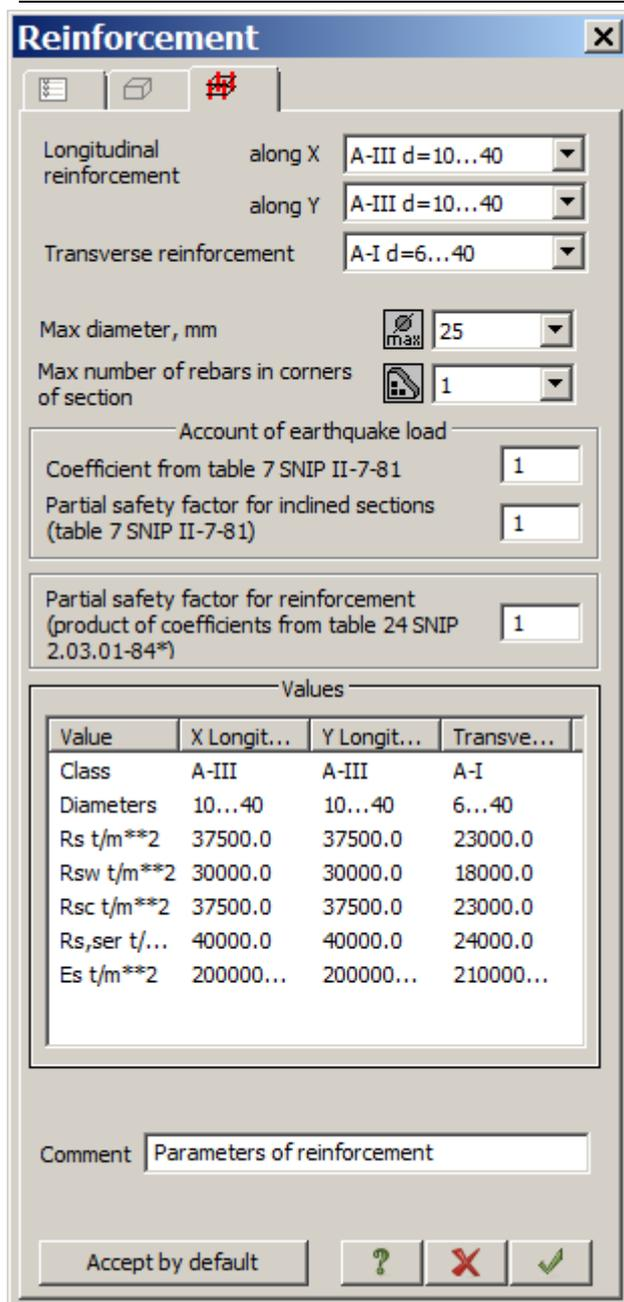

Figure 21.11 Reinforcement dialog box
- ⇒ In the **Reinforcement** dialog box (see Fig.21.11), in the **Max diameter** list, select 25 mm and click **OK**